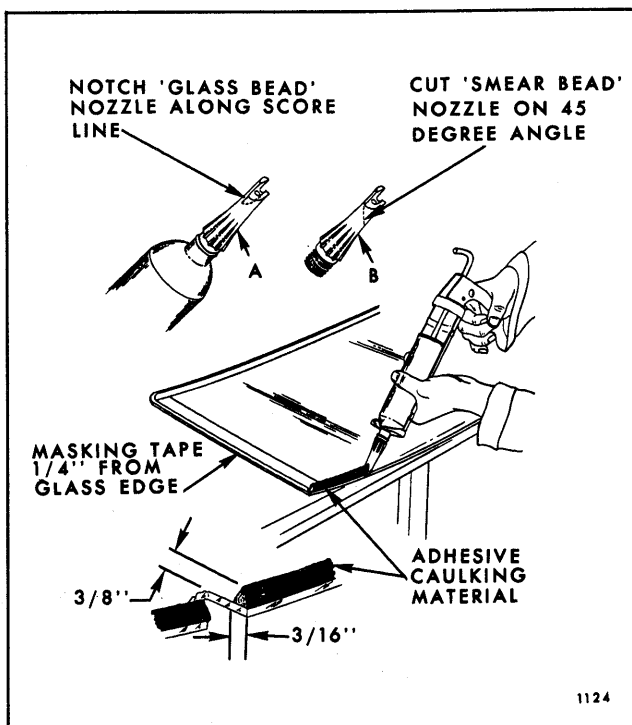

Fig. 3-12—Adhesive Caulking Installation - Extended Method
8. Cut off tip of one nozzle along score line (Fig. 3-12). This "glass bead" nozzle will be used to apply bead of adhesive caulking material to glass. Cut tip off other nozzle at 45° angle 1" below end of nozzle (Fig. 3-12). This nozzle will be used to apply "smear bead" of adhesive caulking material to pinchweld flange.
11. Positioning the gun and nozzle as shown in Figure 3-12 carefully apply a smooth continuous bead of caulking material $3/8$ " high by $3/16$ " wide at base completely around inside edge of glass. When material in first tube is dispensed, quickly insert second tube and continue application of bead. After application, check bead and fill all voids and air bubbles.